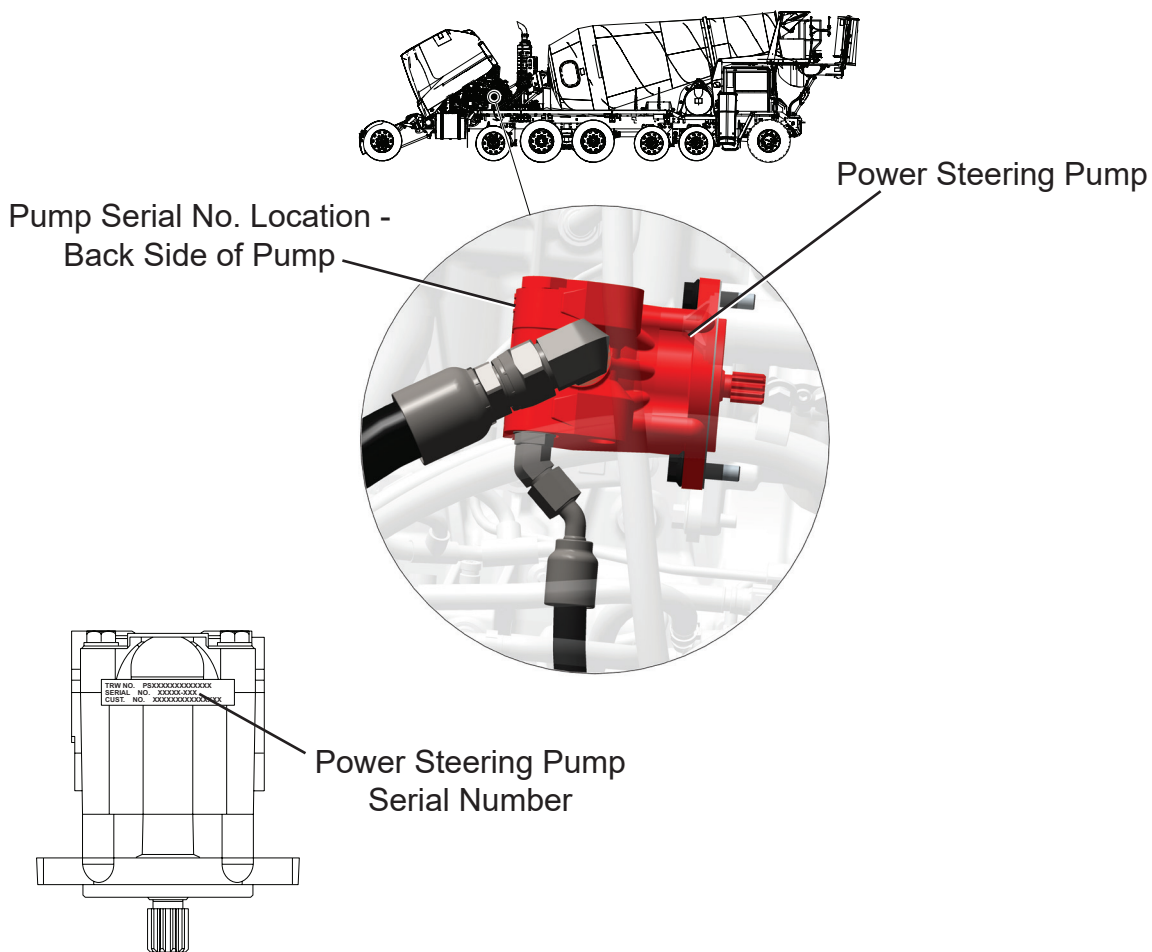

Figure 1
3. Locate power steering pump on right-hand side of engine, see Figure 1. The pump serial number is stamped on pump body, closest to the engine block. Use a mirror to verify pump serial number on pump body.